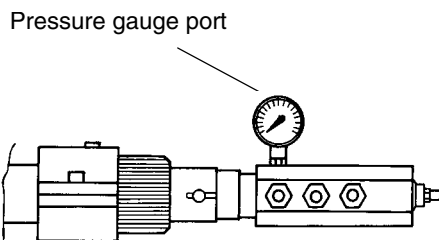

Fig. 22
- the nozzle supply pressure is already factory-set and must not be changed. Only if necessary, adjust the supply pressure as follows (see related paragraph); insert a pressure gauge into the port shown on Fig. 22 and act on on the pump adjusting screw **VR** (see Fig. 21 and page 13) as to get the nozzle pressure at 25bar (according to the nozzle model provided- see page 31).